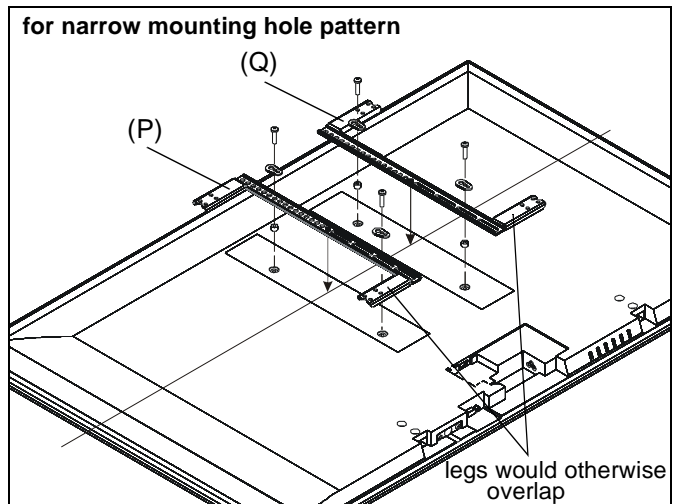

Figure 16
5. Place uprights (P and Q) on display, ensuring: (See Figure 16)
NOTE: If installing to a display with a narrow hole mounting pattern, reverse uprights (P and Q) so that the upright legs do not overlap onto each other. (See Figure 16)